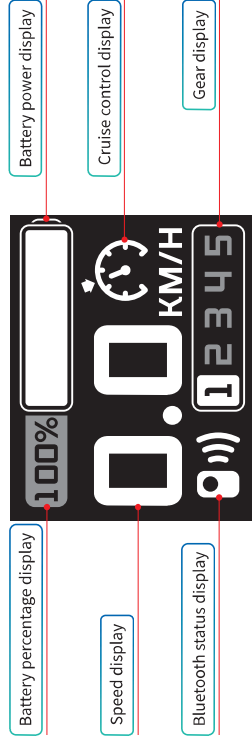

Figure 4.3.3.1
- (1) Battery percentage display (as shown in Figure 4.3.3.1)
- (2) Speed display (as shown in Figure 4.3.3.1)
- (3) Bluetooth status display (as shown in Figure 4.3.3.1)
- (4) Battery power display (as shown in Figure 4.3.3.1)